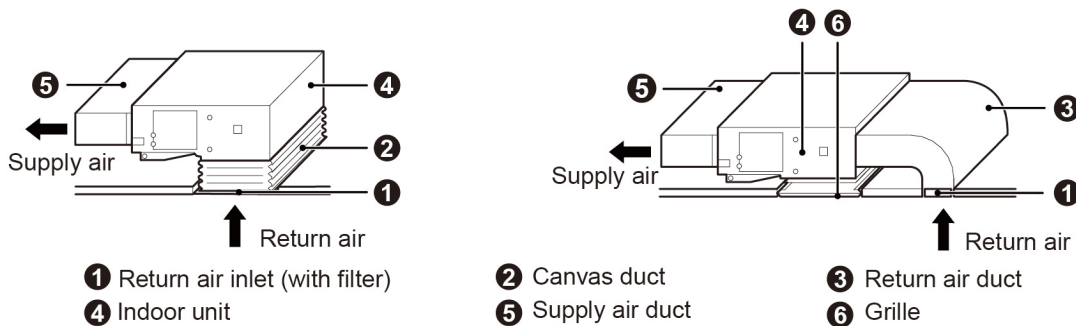

Fig.4.4.10
(2) If air return from the bottom is needed, switch the positions of square flange and air-return cover.
- (3) Use a clincher to connect air-return duct to the air-return opening of indoor unit. The other end of air-return duct connects with the air-return louver. In order to adjust the height conveniently, you can make a folded canvas duct and have it strengthened by 8# iron wire.
- (4) Air return from the bottom will produce more noise than air return from the back. So we suggest you to add a noise damper and static pressure case to lower noise if you choose air return from the bottom.
- (5) Select the appropriate installation way based on actual construction and maintenance needs, as shown in Fig.4.4.10.